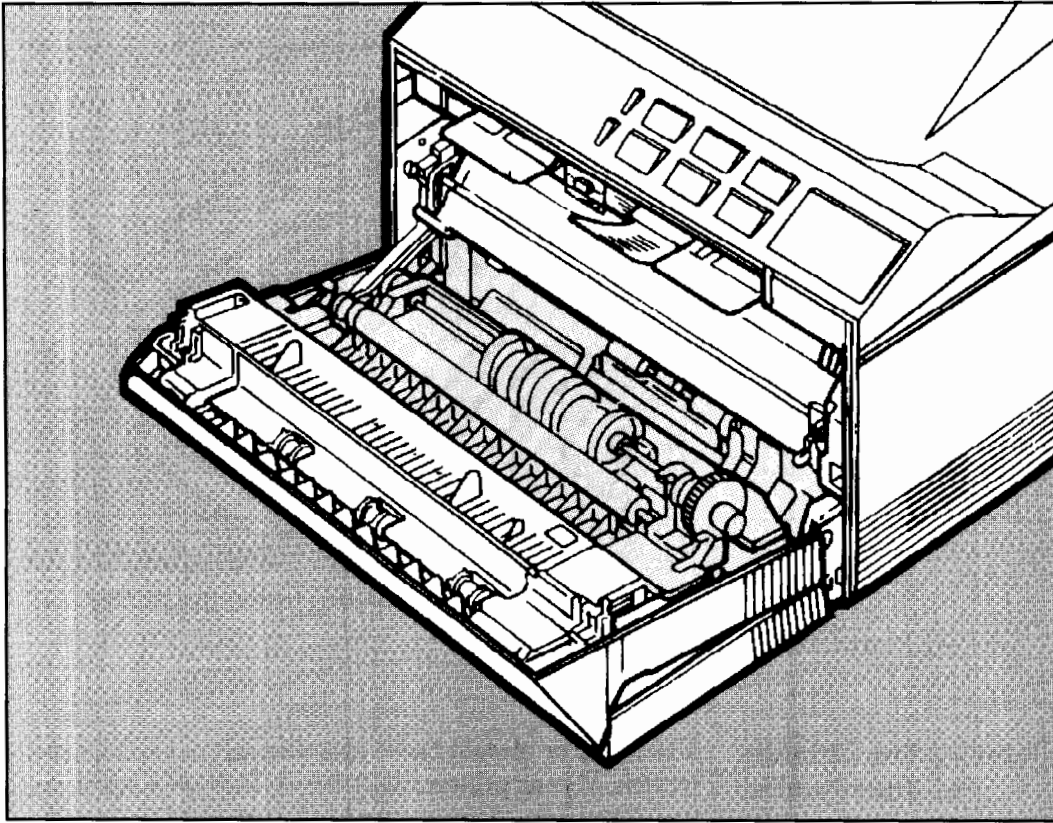

Figure 8-13. Inspecting for Toner
1. Look inside the printer for toner. Figure 8-13 highlights places where toner may collect.